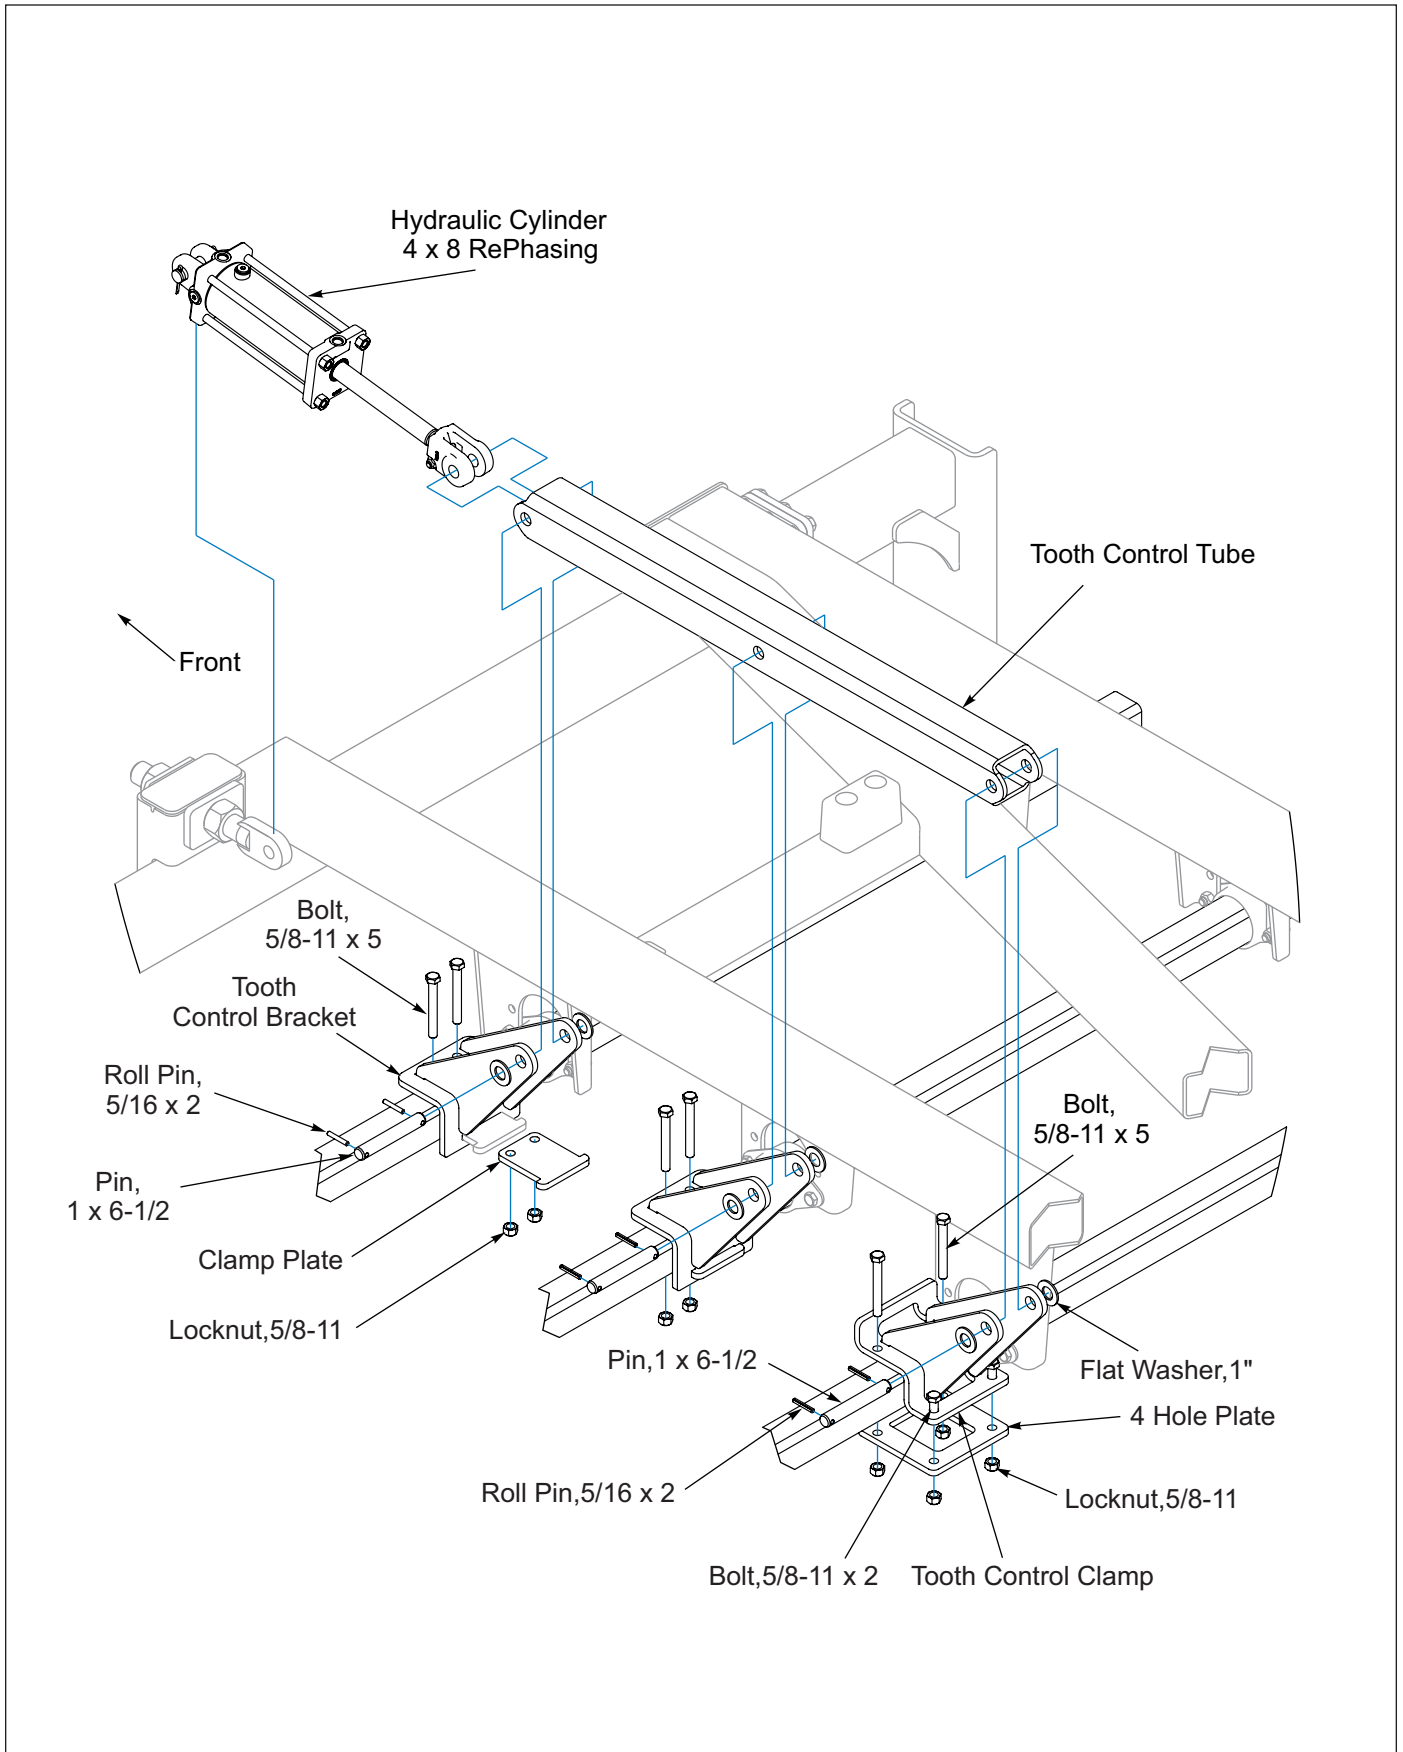

Figure 2-66: Right Hand Wing Tooth Control
1. Attach a Tooth Control Bracket on the top of the right Front Tooth Tube by sliding a Clamp Plate into the Tooth Control Bracket Slot and under the Tooth Tube. Fasten with 5/8-11 x 5 Bolts and Locknuts, **Do Not** tighten at this time. **See Figure 2-66.**